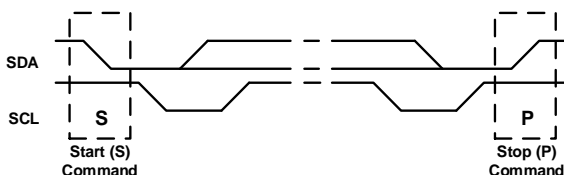

Figure 8: Start and Stop Commands
Start (S) and stop (P) commands are signaled by the master device, which signifies the beginning and the end of the I2C transfer. A start command is defined as the SDA signal transitioning from high to low while the SCL is high. A stop command is defined as the SDA signal transitioning from low to high while the SCL is high (see Figure 8).